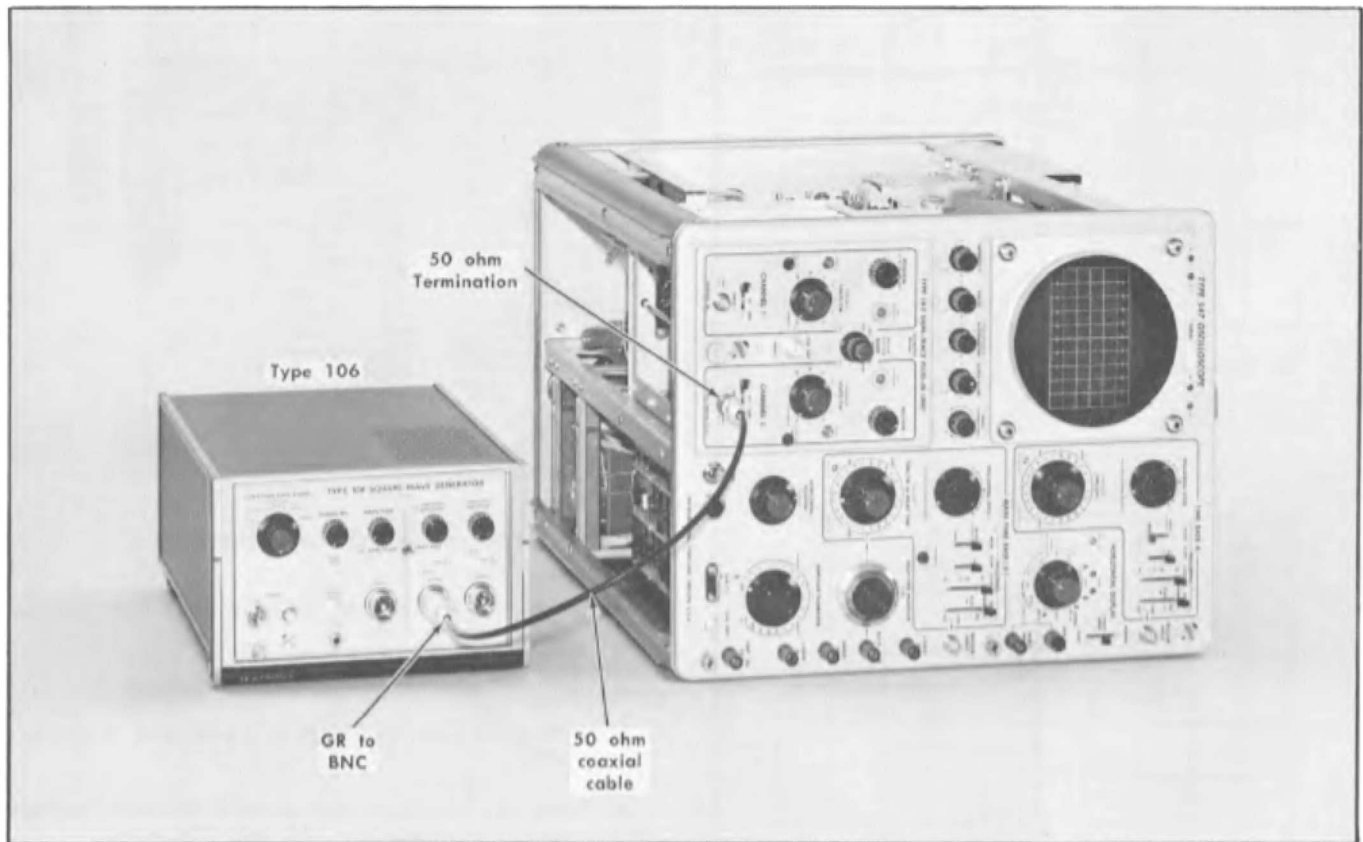

Fig. 7-13. Initial equipment setup for step 20.
20. Adjust High-Frequency Compensation ①
- Equipment setup is shown in Fig. 7-13.